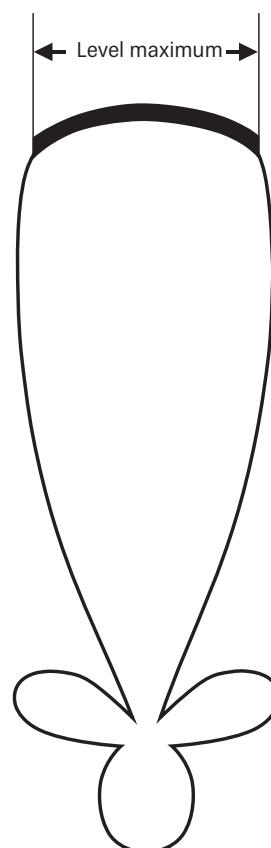

Fig. 7: Antenna lobe
2. Search for satellites by rotating the azimuth axis (see https://www.kathrein-ds.com/download/azimut-elevations-tabelle_de/?tmstv=1753247204) and set to maximum display (when using a Kathrein MSK satellite measuring receiver ...). If no measuring receiver is available, set to the best signal strength/quality (see Fig. 7 and „Level optimisation“).
As the antenna lobe (Fig. 7) in the maximum range is only slightly curved, an excellent signal strength/quality can be expected when it is aligned to this range. However, it may also be that the antenna at the left or right is “only just” aligned to this excellent reception range. As soon as the antenna stanchion experiences any vibration the supposed excellent signal strength/quality can drop off at the steep edge of the lobe. To avoid this, the reception position should be set to the middle of the maximum level.